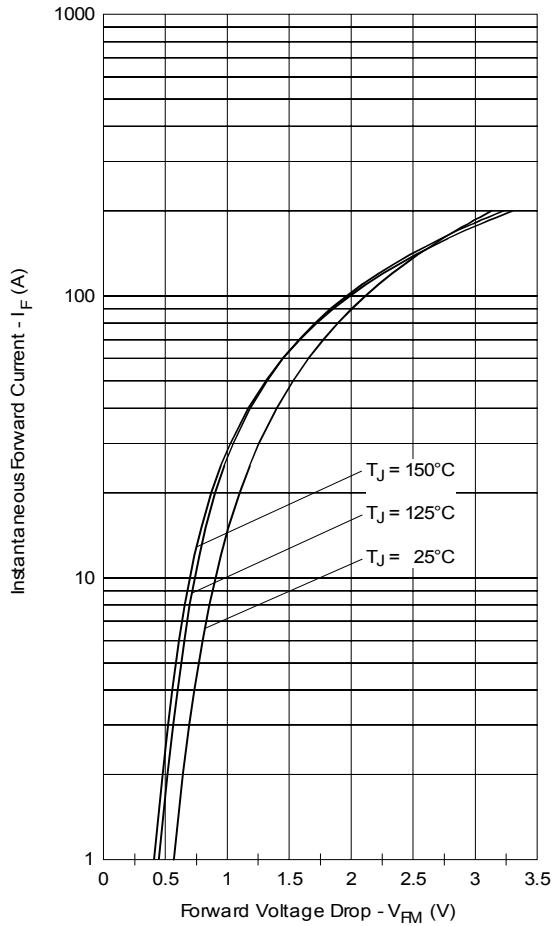

Fig. 1 - Max. Forward Voltage Drop Characteristics (Per Leg)
| V _{FM} Max. Forward Voltage Drop (Per Leg) * See Fig. 1 (1) | 0.80 | V | @ 6A T _J = 25 °C |